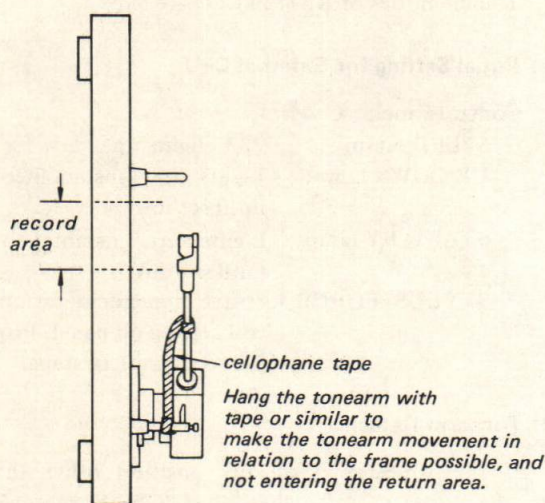

Fig. 10
- 5) Then, carry the tonearm by hand from the tonearm rest to the record area and as illustrated in Fig. 10, hang it in the air with a cellophane tape.